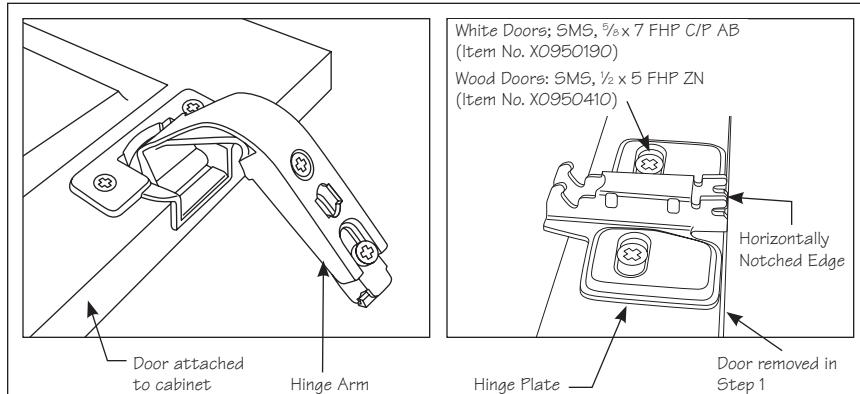

Figure 3
- 3** Using the attachment screws that were removed in STEP 2, attach the new hinge arm to the door that is still attached to the cabinet and attach the new hinge plate to the door that was removed in STEP 1. See Figure 3.